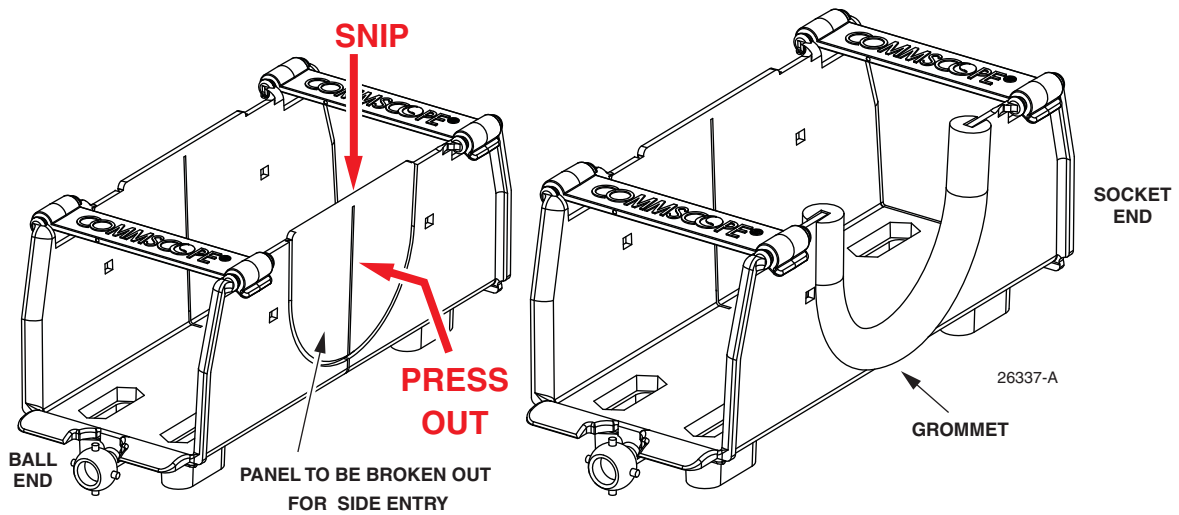

Figure 10. Universal Trough Side Cable Entry
3. If side exits will be used for patch cord routing, snip top tab on side to be removed, press out the side pieces, and install a grommet (provided) as shown in Figure 10.